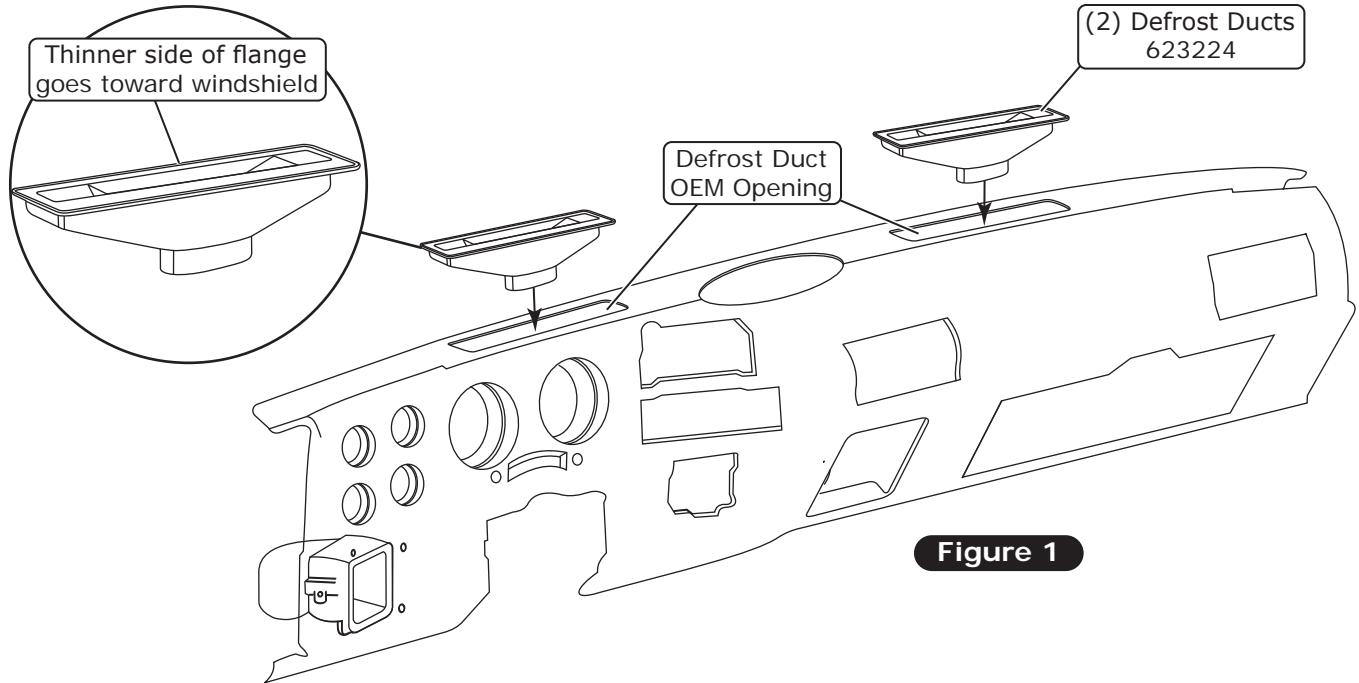

Figure 1
1. Install the driver- and passenger-side defrost ducts as shown in Figure 1, below.
1. Apply a 1/4" bead of silicone around the mating surface of the fresh air cap as shown in Figure 1, below.